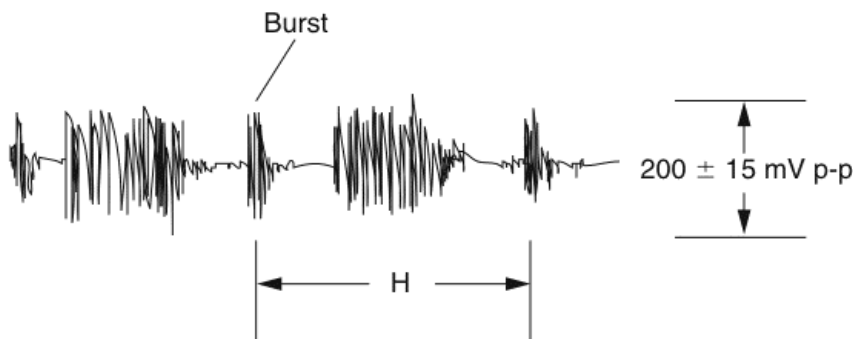

FIGURE 39-11 A typical 8-mm current level adjustment.
Typical 8-mm chroma (C) current level adjustment Connect the VCR section and test equipment as described in the VCR adjustment set-up procedure. Short pins 6, 11, and 14 of J1005 together. Connect the scope to TP132 of CH 1 and trigger the external to TP105. Ground the scope lead to TP143. Place the power switch in the CAM position and place the Standby switch in the On position. Apply a color-bar signal as described in the VCR adjustment set-up procedure. Load the instrument with an MP-type tape and place the camcorder in Record mode. Adjust VR132 so that the chroma level is 200 V p-p, $\pm$ 15 V p-p (Fig. 39-11).